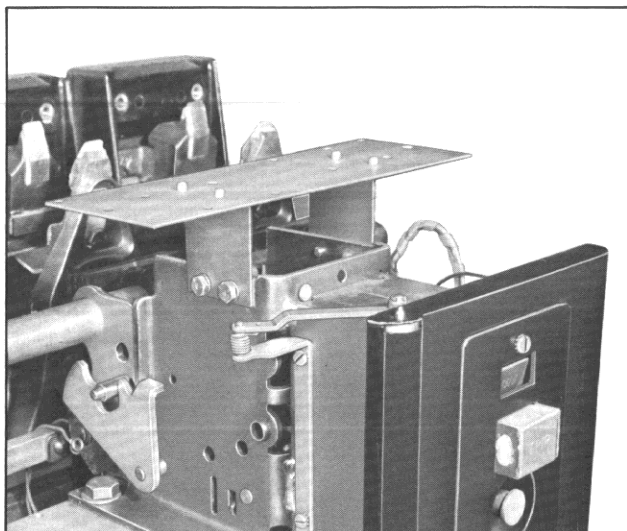

Fig. 29 Amptector Mounting Bracket DB-75/100
5. The amptector "mounting assembly" consists of a steel plate with two (2) .203 dia. holes, and two (2) 25-20 tapped holes, and two (2) "L" brackets welded to it and 4" apart. Each "L" bracket has two .281 dia. holes, which line up with the newly .25-20 tapped holes when the assembly is fitted onto the breaker, Fig. 29, secure the assembly to the breaker mechanism, with the .203 dia. holes in plate towards the arc chutes, use .25-20 x .50 bolts, lock and flat washers. **Do not use longer bolts, as they will interfere with the mechanism linkages.**